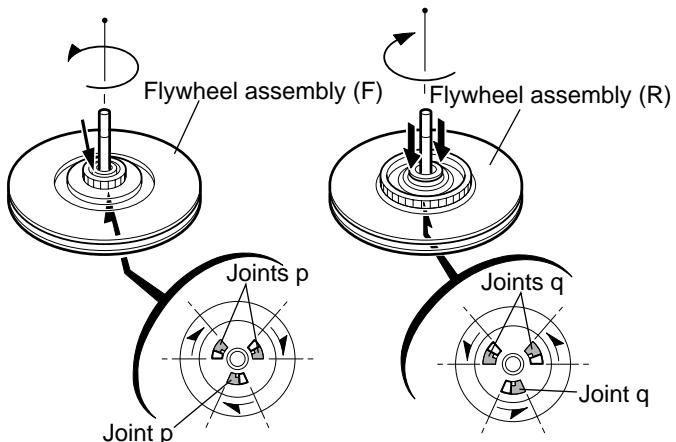
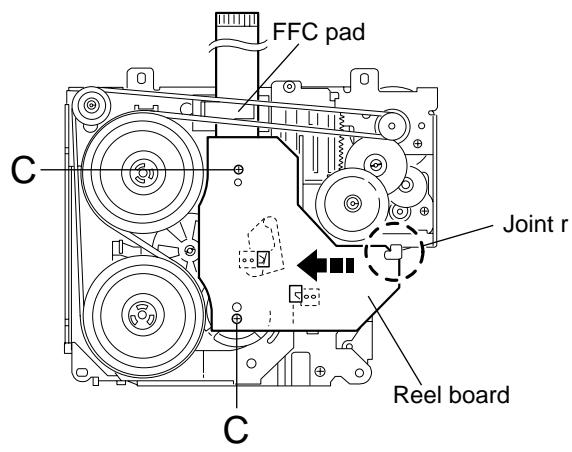

Fig.20
Fig.23
■ Disassembling the flywheel assembly (F) (See Fig.20 and 21)
1. Push and turn counterclockwise the spring holder (F) to release the three joints **p** on the bottom of the flywheel.
2. The spring holder (F), the TU spring and the friction gear play come off.
■ Disassembling the flywheel assembly (R) (See Fig.20 and 22)
1. Push and turn clockwise the spring holder (R) to release the three joints **q** on the bottom of the flywheel.
2. The spring holder (R), the FF spring and the friction gear FF come off.
■ Removing the reel board (See Fig.23 and 24)